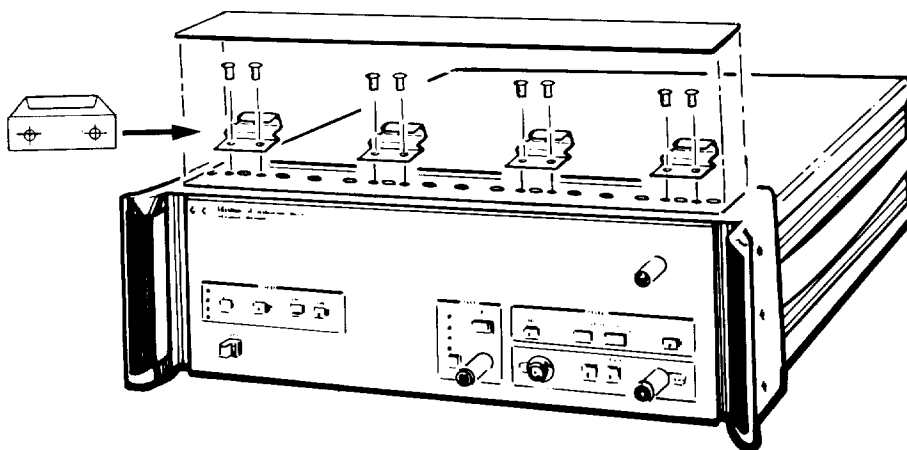

Figure 1-5. Lock Link Installation
1. Fasten the lock links provided with the preselector to the top of the preselector, as in Figure 1-5.